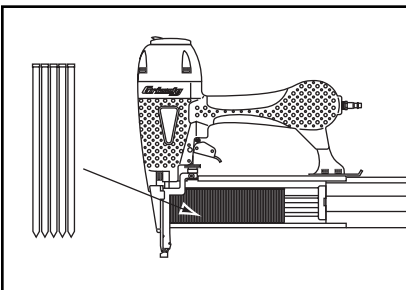

Figure 2. Loading the nailer.
4. Point the nailer down and insert a stick of brad nails into the magazine as shown in **Figure 2**. Make sure that the pointed ends of the nails rest in the slot at the bottom of the magazine.